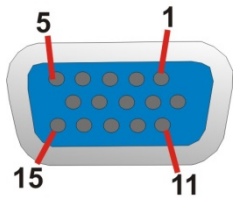

Figure 3-35: VGA Connector
- CN Pinouts:** See **Figure 3-35** and **Table 3-30**